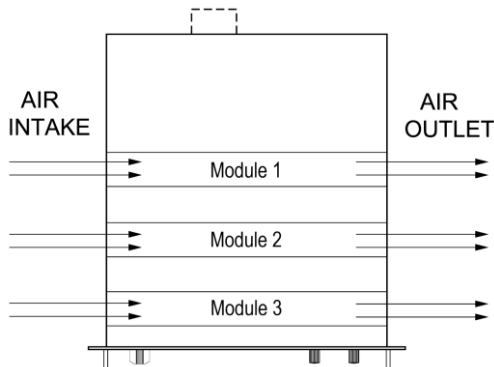

Figure 6.9: The fans are located at the left side and blow through the unit.
- Three low noise blowers cool the unit. The speed of the fans depends on the temperature of the internal heatsinks, see Figure 6.9. Normally, at 50 °C ambient temperature and full load the fans will not work at full speed.